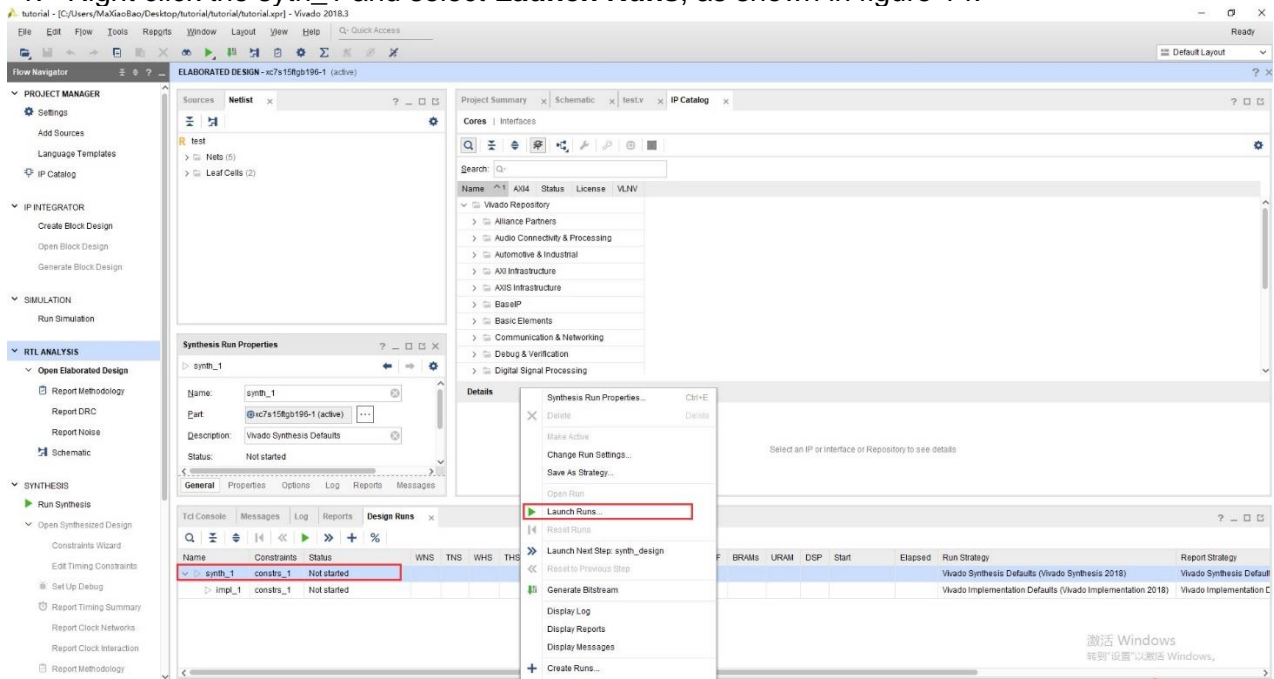

Figure 14.
1. Right click the synth\_1 and select **Launch Runs**, as shown in figure 14.